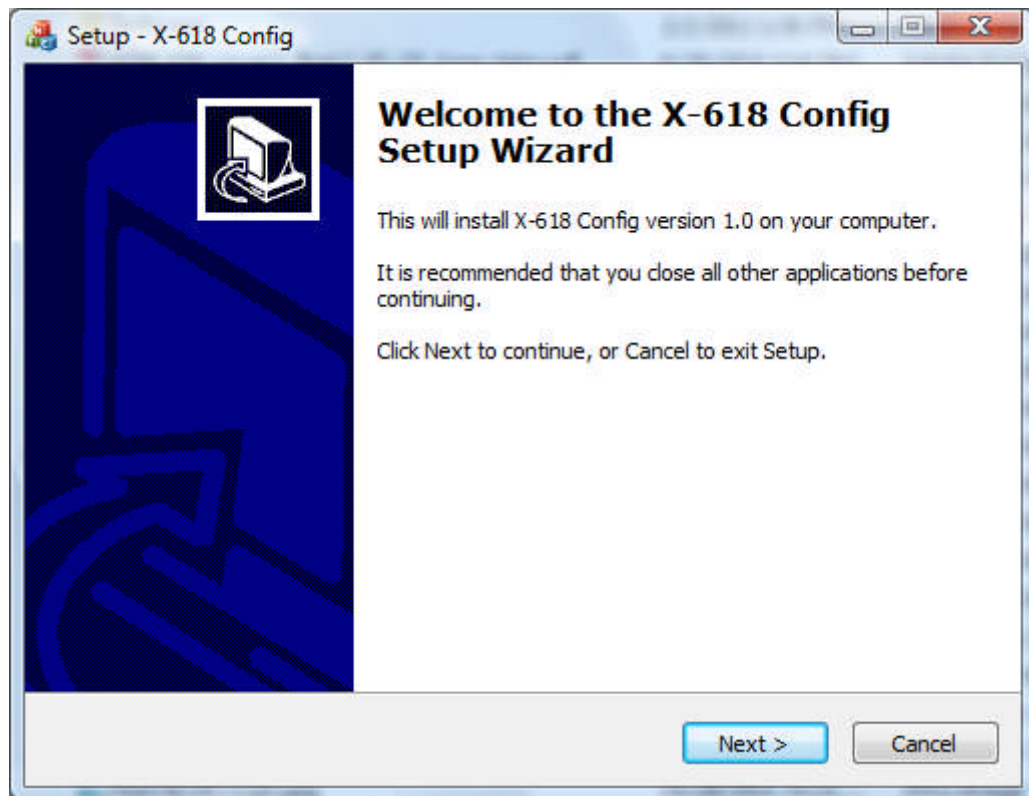

Figure 1 X-618 Config Installation Wizard Page
1. Double-click the installation program *X-618 Config.exe*, and the X-618 Config installation wizard window displays as shown in Figure 1.